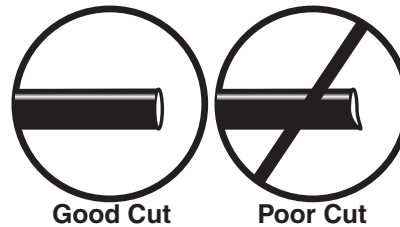

fig. 17
WHEN CUTTING OR TRIMMING THE AIR LINE, USE A HOSE CUTTER, A RAZOR BLADE, OR A SHARP KNIFE. A CLEAN, SQUARE CUT WILL ENSURE AGAINST LEAKS. DO NOT USE WIRE CUTTERS OR SCISSORS TO CUT THE AIR LINE. THESE TOOLS MAY FLATTEN OR CRIMP THE AIR LINE CAUSING IT TO LEAK AROUND THE O-RING SEAL INSIDE THE ELBOW FITTING (FIG. 17).
7. Cut off the air line, leaving approximately 12" of extra air line. A clean square cut will ensure against leaks (see fig. 17). Insert the air line into the air fitting. This is a push-to-connect fitting. Simply push the air line into the 90° swivel fitting until it bottoms out (9/16" of air line should be in the fitting).